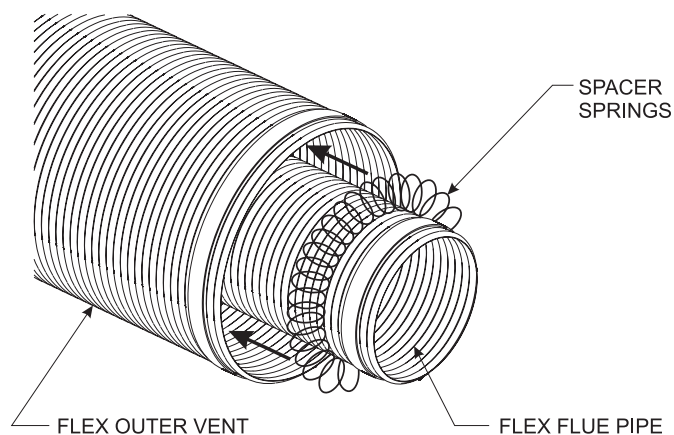

Figure 60
2. Check to see that the vent spacer springs are located around the flue vent at 8 inch intervals along its length. **See Figures 60 and 61.** If not, stretch the spacer springs to about 15 inches long and wrap them around the flue, then interlock the ends of each spring. Maintain equal distance between spring spacers.